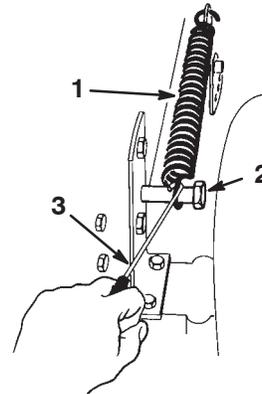

Figure 37
5. Remove the height-of-cut lift assist spring from the retaining bolt (Fig. 37). The spring is between the frame and the right rear wheel.
13. Move the height-of-cut lever into the “D” notch. Hook the lift assist spring onto the retaining bolt for storage (Fig. 37).